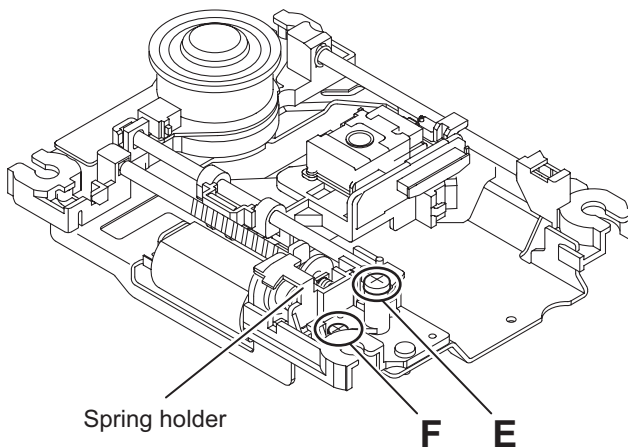

Fig.9
- (2) Remove the screw **E** and **F** attaching the spring holder. (See Fig.9)